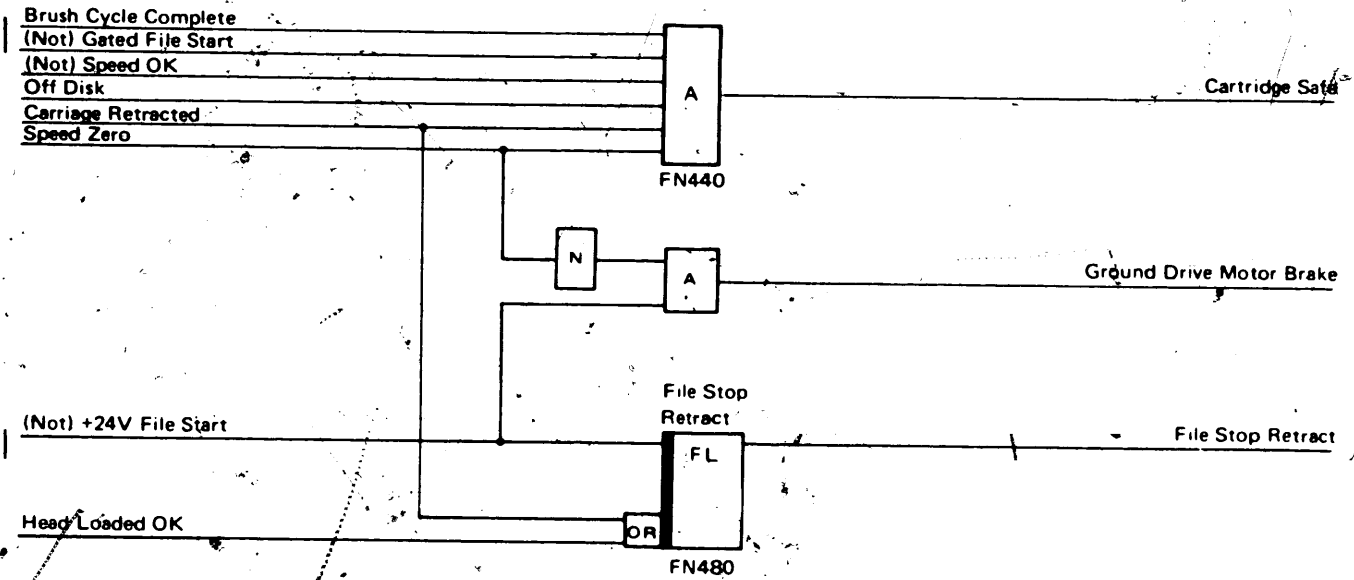

Figure 1-51. Machine Stop Logic [07512A]
- The machine stop logic and timing are given in Figures 1-51 and 1-52. Fr. E05